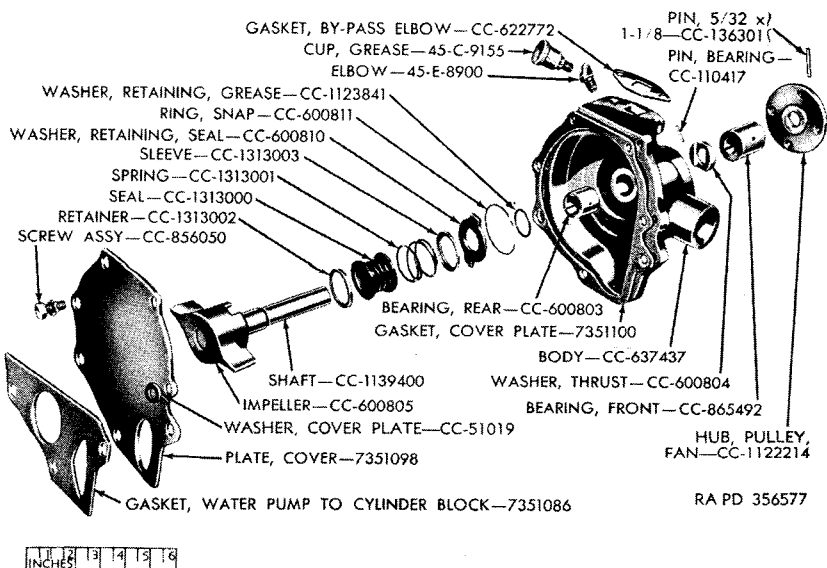

Figure 76. Water pump—exploded view.
*a. General.* The water pump (fig. 76) should be rebuilt when bearings or seals become ineffective. The following procedure can be used to rebuild the water pump, provided the housing is not cracked or damaged.